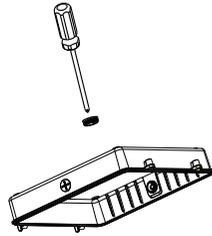

Figure 2-2
2. Loosen the 3/4 plug on the junction box cover by screwdriver; Figure 2-2